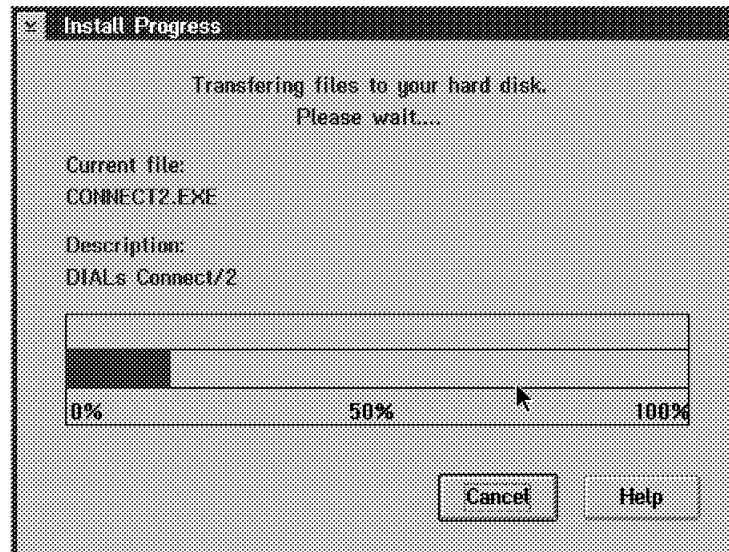

Figure 230. 8235 Installation in Progress
5. The next panel is as shown in Figure 230.